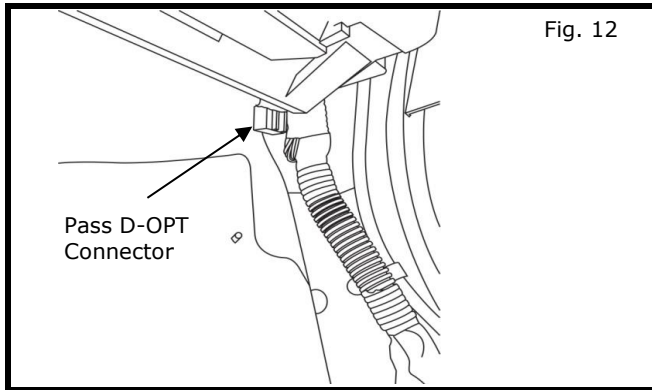

Fig. 12
- a) Locate of the Passenger D-OPT Connector behind the glove box on the right side of the footwell as shown in Fig. 12.